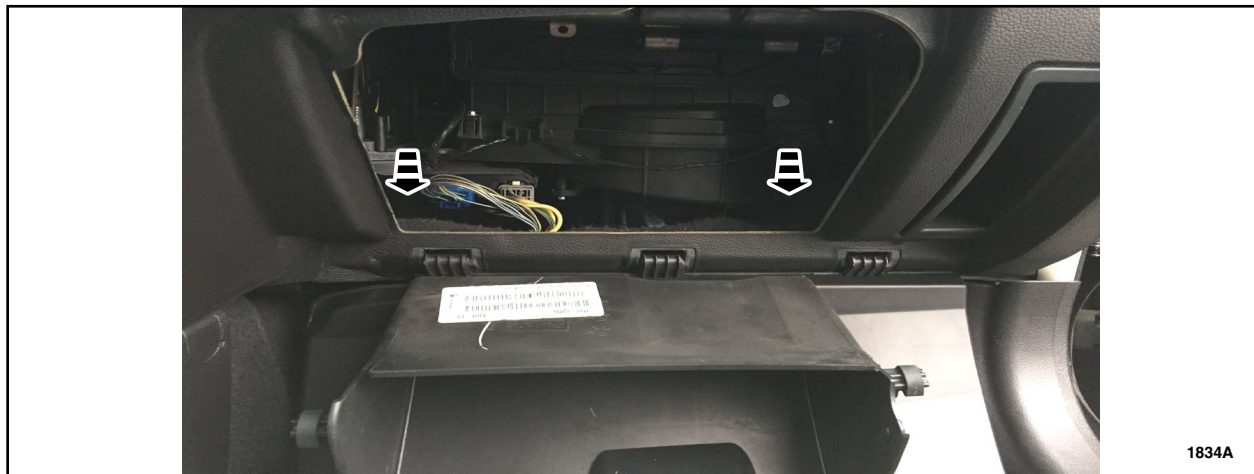

FIGURE 1
1. Fully lower the glove compartment door. See Figure 1.